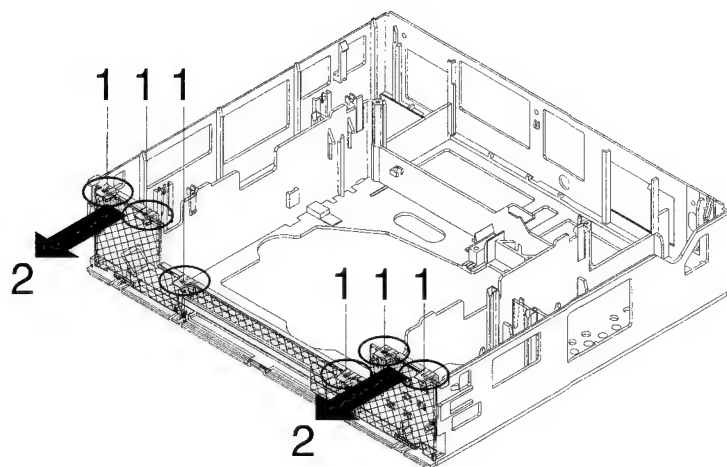

Fig. 5
- The control print can be removed by releasing the snap hooks (see fig. 5).